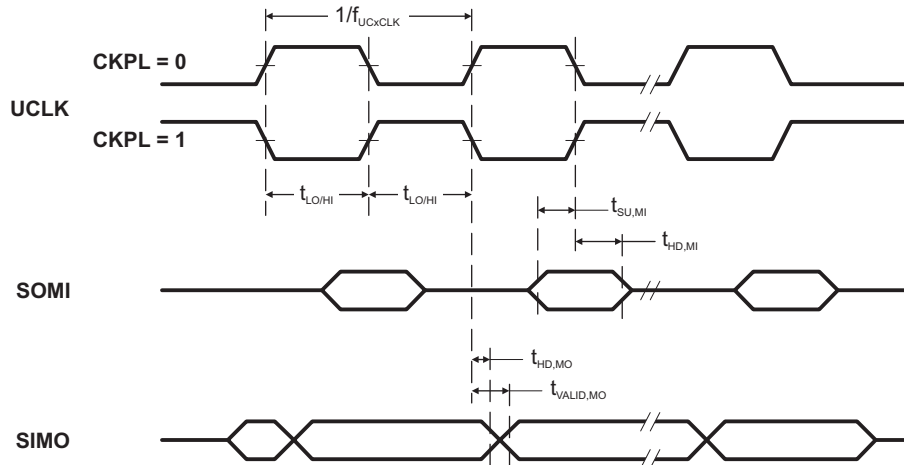
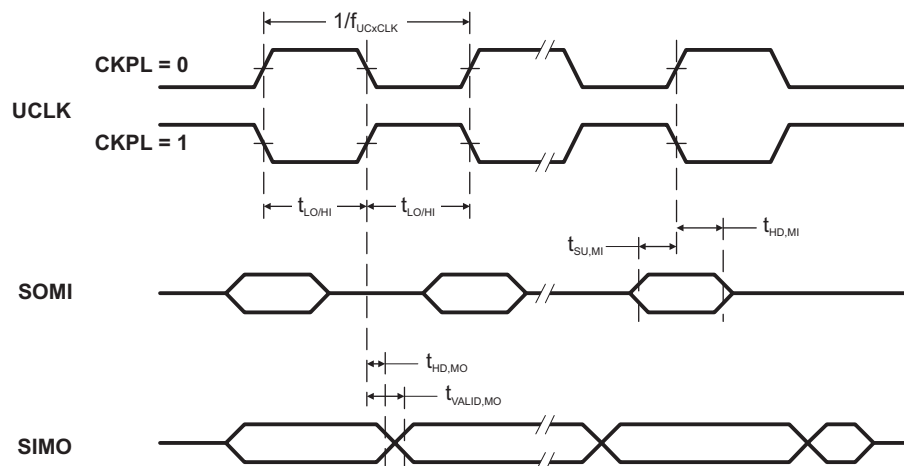

Figure 14. SPI Master Mode, CKPH = 0
Figure 15. SPI Master Mode, CKPH = 1
(see Note ⁽¹⁾, Figure 14 and Figure 15)
(2) Specifies the time to drive the next valid data to the SIMO output after the output changing UCLK clock edge. See the timing diagrams in Figure 14 and Figure 15.
(3) Specifies how long data on the SIMO output is valid after the output changing UCLK clock edge. Negative values indicate that the data on the SIMO output can become invalid before the output changing clock edge observed on UCLK. See the timing diagrams in Figure 14 and Figure 15.
- (2) Specifies the time to drive the next valid data to the SOMI output after the output changing UCLK clock edge. See the timing diagrams in Figure 14 and Figure 15.
- (3) Specifies how long data on the SOMI output is valid after the output changing UCLK clock edge. See the timing diagrams in Figure 14 and Figure 15.